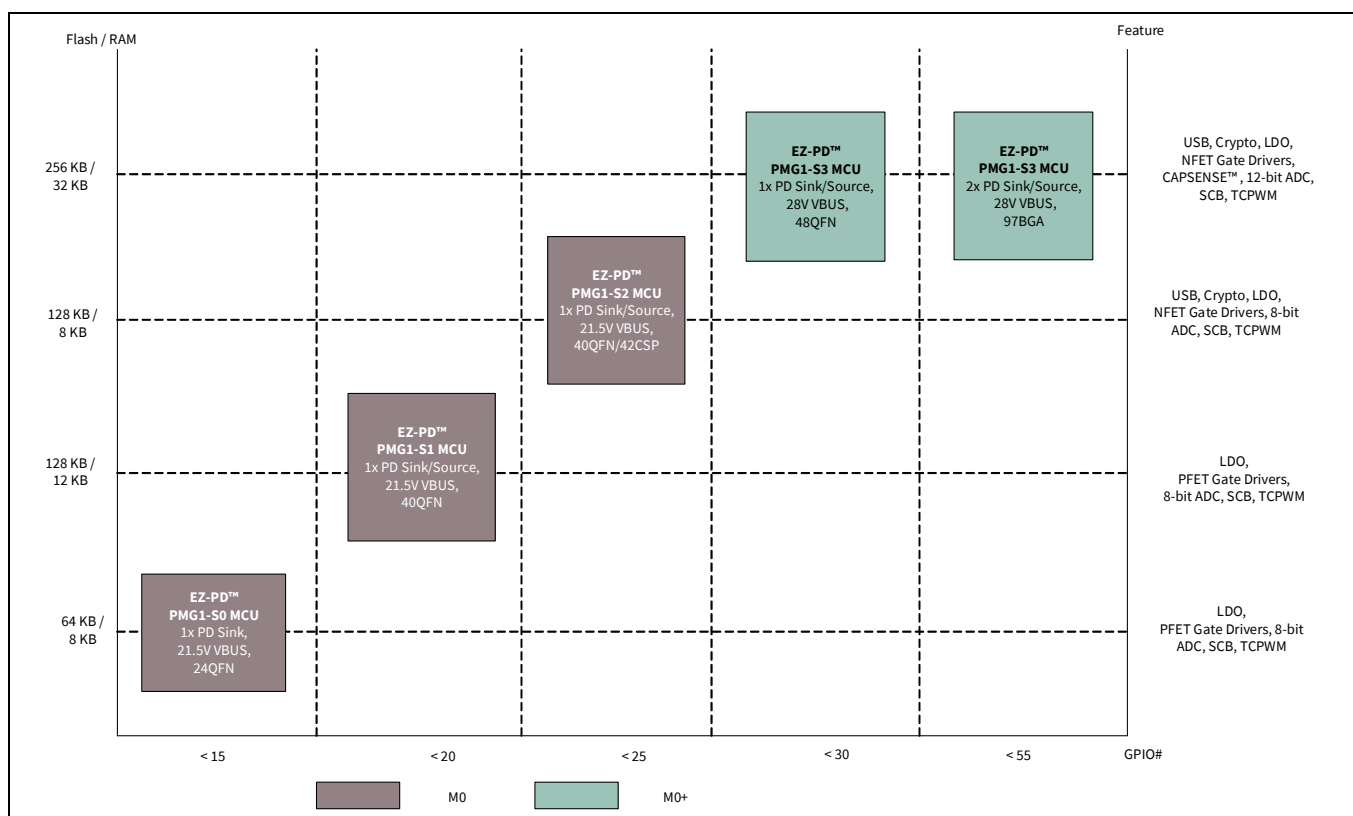

Figure 1 EZ-PD™ PMG1 family segmentation
EZ-PD™ PMG1 (Power Delivery Microcontroller Gen1) is a family of high-voltage USB-C Power Delivery (PD) microcontrollers (MCU). These chips include an Arm® Cortex®-M0/M0+ CPU and USB-C PD controller along with analog and digital peripherals. EZ-PD™ PMG1 is targeted for any embedded system that provides/consumes powers to/from a high-voltage USB-C PD port and leverages the microcontroller to provide additional control capability. **Figure 1** shows the EZ-PD™ PMG1 family segmentation.